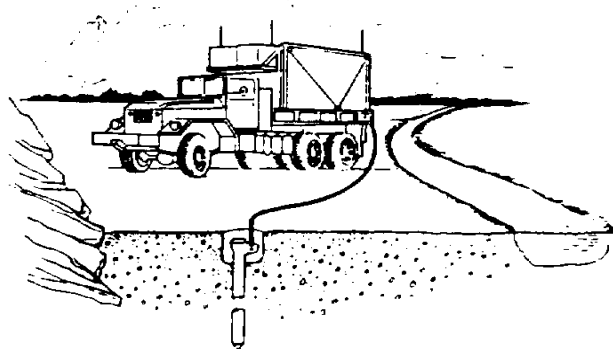

Figure 2-3.
c. Mountains. It may be impossible to penetrate to moist soil or a water table in many mountainous areas. To properly ground your equipment, you must find a site where the grounding kit can be installed. Stream beds are usually the best locations. (See figure 2-3.)